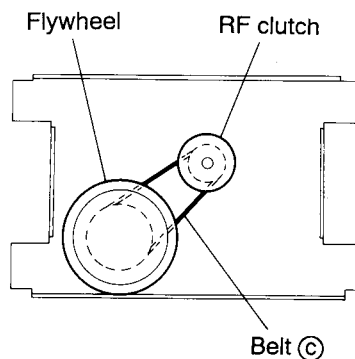

Fig. 5-31
**How to Remove the Flywheel** (Refer to Figs. 5-31 and 5-32)